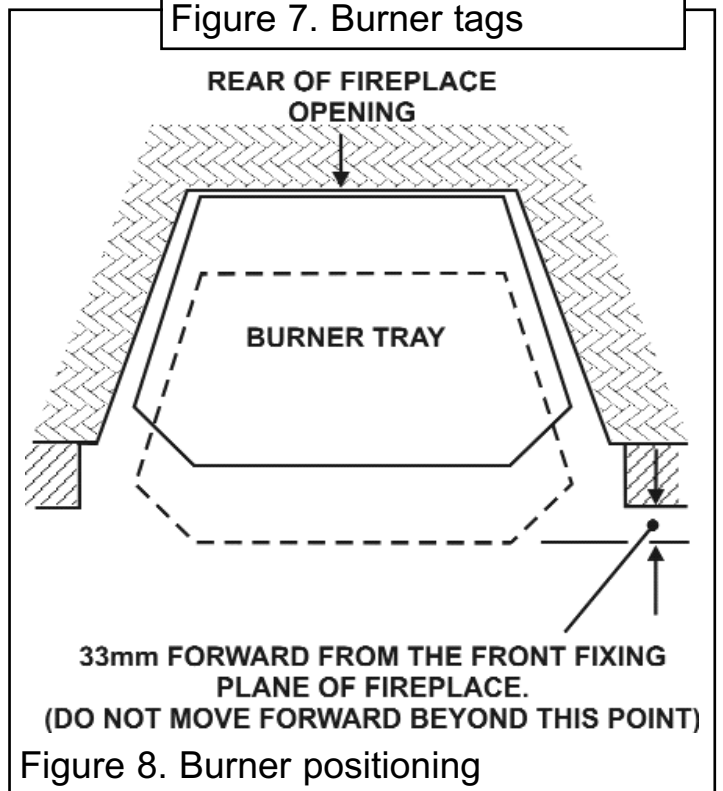

Figure 8. Burner positioning
- Place the burner unit centrally within the fireplace opening. Position the burner to the rear of the opening, this may be moved forward providing the front of the burner tray trim does not protrude beyond the front plane of the fireplace opening by more than 33mm (See figure 8).
- The casting and burner may be moved forward providing the front of the burner tray does not protrude beyond the front plane of the fireplace opening by more than 33mm (See figure 8).